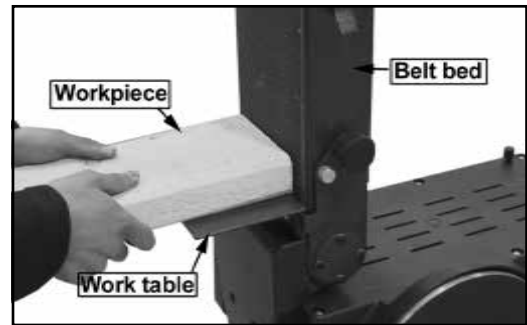

Fig. 16
3. Move the work evenly across the sanding belt. (See Fig. 16)